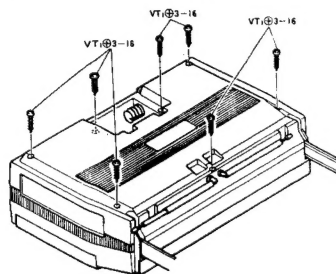

Fig. 1
- 1) Remove the 7 screws. (See figure 1)